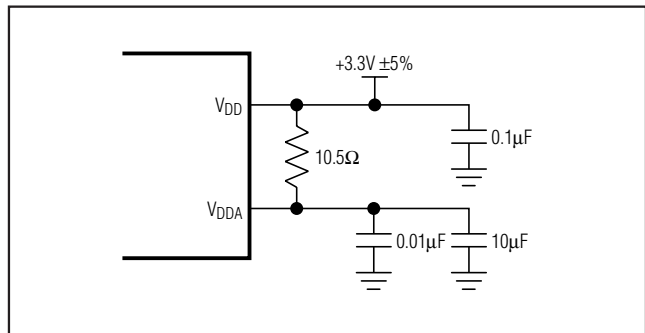

Figure 4. Analog Supply Filtering
- Note 1:** A series resistor of up to 10.5Ω is allowed between V_{DD} and V_{DDA} for filtering supply noise when system power-supply tolerance is $V_{DD} = 3.3V \pm 5\%$. See Figure 4.
The MAX3629 is a mixed analog/digital IC. The PLL contains analog circuitry susceptible to random noise. To take full advantage of on-board filtering and noise attenuation, in addition to excellent on-chip power-supply rejection, this part provides a separate power-supply pin, V_{DDA} , for the VCO circuitry. The purpose of this design technique is to ensure clean input power supply to the VCO circuitry and to improve the overall immunity to power-supply noise. Figure 4 illustrates the recommended power-supply filter network for V_{DDA} . This network requires that the power supply is $+3.3V \pm 5\%$. Decoupling capacitors should be used on all other supply pins for best performance.